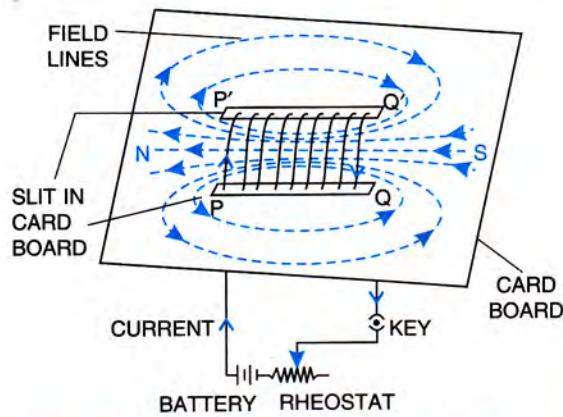

Fig. 10.6 Magnetic field lines due to a solenoid carrying current
It is found that the iron filings on the cardboard get arranged in a definite pattern as shown by the dotted lines in Fig. 10.6, representing the pattern of magnetic field lines due to the current carrying solenoid. The direction of magnetic field at a point is determined by using a compass needle and arrows are marked on these lines in the direction in which the north pole of the compass needle points.
- (1) The magnetic field lines inside the solenoid are nearly straight and parallel to the axis of solenoid *i.e.*, the magnetic field is *uniform* inside the solenoid.
- (2) The magnetic field lines become denser (*i.e.*, a strong magnetic field is obtained) on increasing current in the solenoid.
- (3) The magnetic field is increased, if the number of turns in the solenoid of given length is increased.
- (4) The magnetic field is also increased, if a soft iron rod (core) is placed along the axis of solenoid. The soft iron increases the strength of magnetic field of the solenoid since soft iron has a high magnetic permeability.
- (5) In Fig. 10.6, the end P at which the direction of current is *anticlockwise* behaves as a *north pole* (N), while the end Q at which the direction of current is *clockwise* behaves